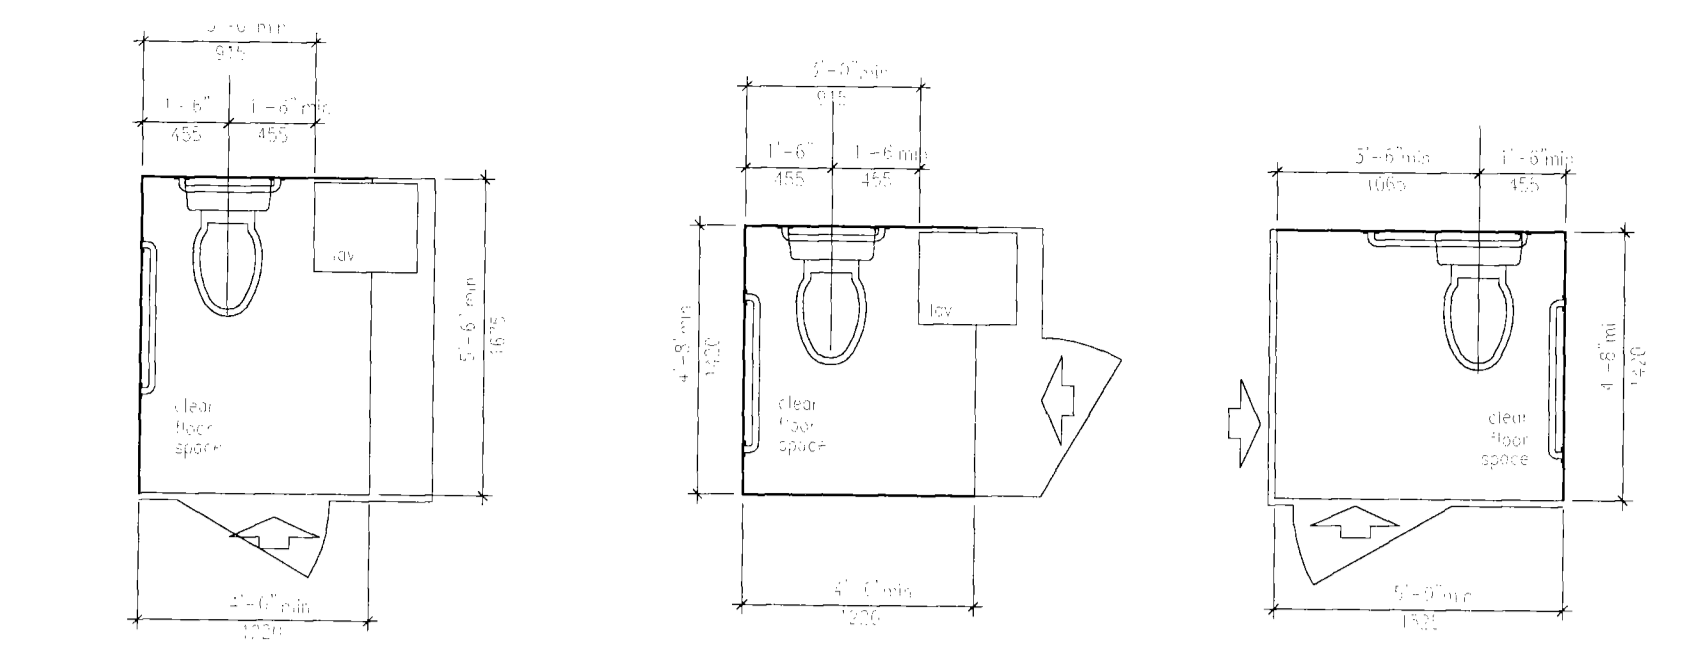

Fig. 28
a. THE HEIGHT OF WATER CLOSETS SHALL BE 17" TO 19" ABOVE THE FLOOR TO THE TOP OF THE TOILET SEAT. FOR HEIGHTS, CONFIGURATIONS AND GRAB BARS, SEE FIGURES 28 AND 29, FOR STALLS SEE FIGURE 30